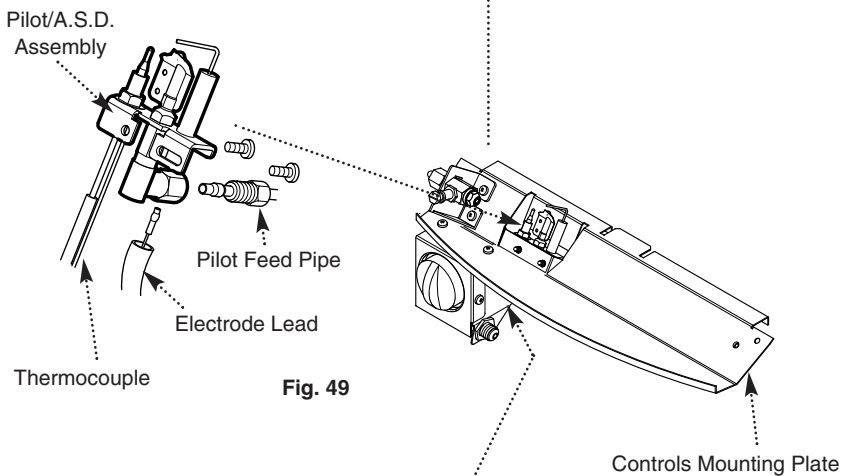

Fig. 49
2. Disconnect the electrode lead from the electrode (Fig. 49).
3. Undo the thermocouple nut from the base of the gas tap and disconnect the pilot feed pipe from the tap body and pilot/A.S.D. assembly (Figs. 49 & 50).
4. Undo the two screws holding the pilot/A.S.D. assembly to the controls mounting plate and remove (Fig. 49).